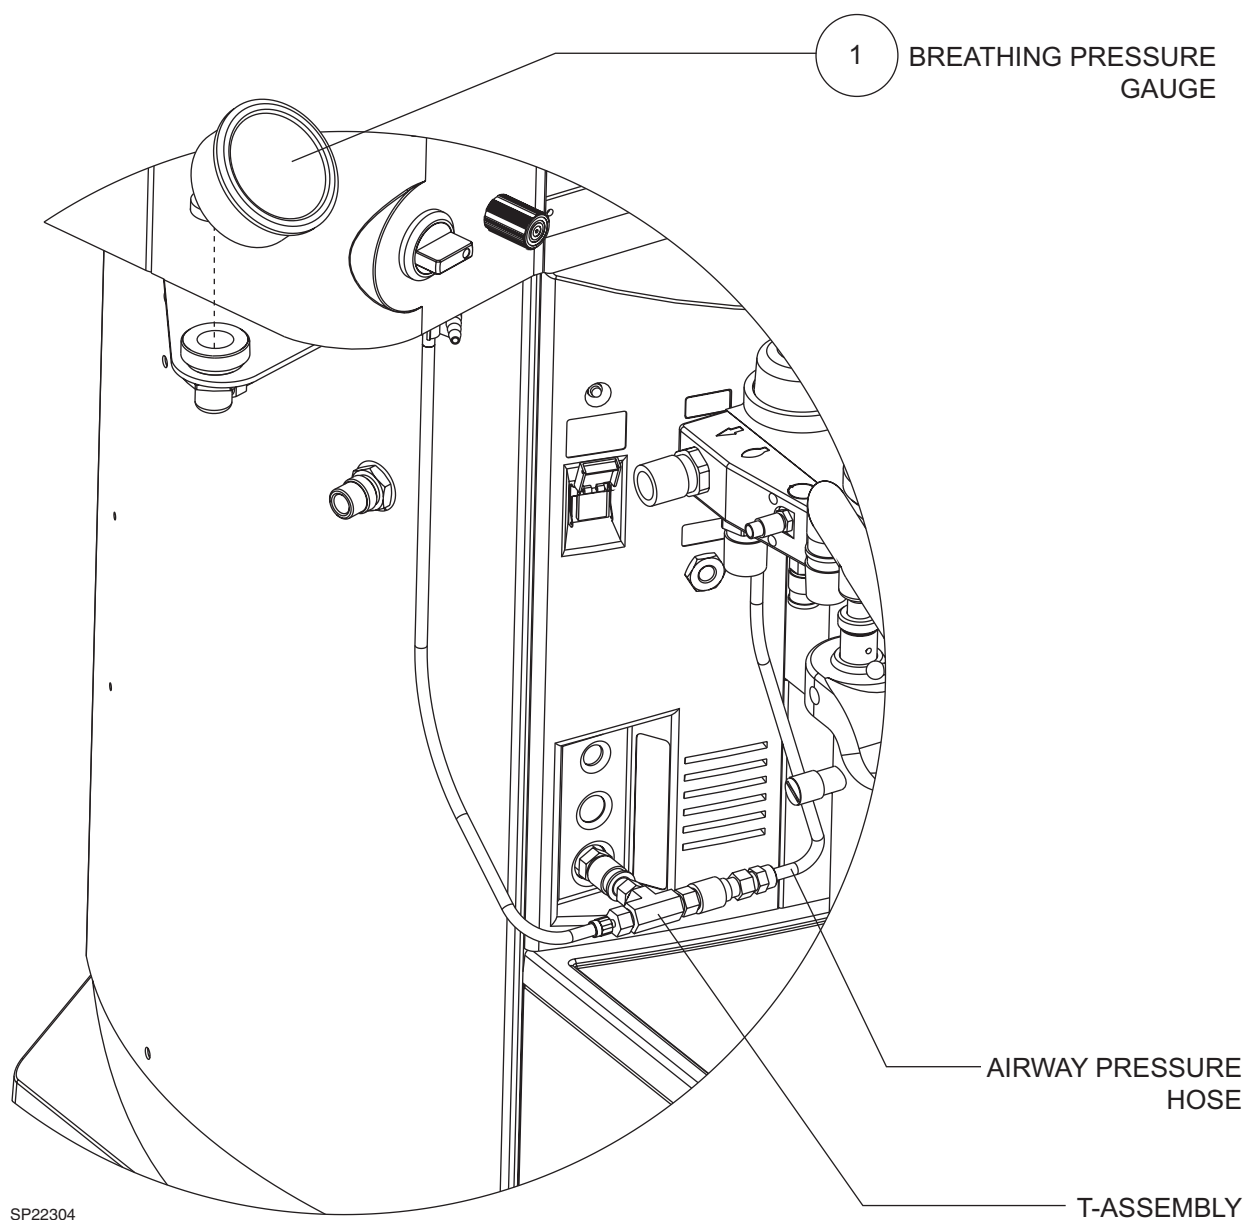

FIGURE 4. Machine Connections
8. Install the breathing pressure gauge assembly (1) on the gauge mount. Orient the gauge as desired and tighten its locking ring.
9. Disconnect the existing airway pressure hose from the patient interface panel and connect it to the T assembly as shown in Figure 4.